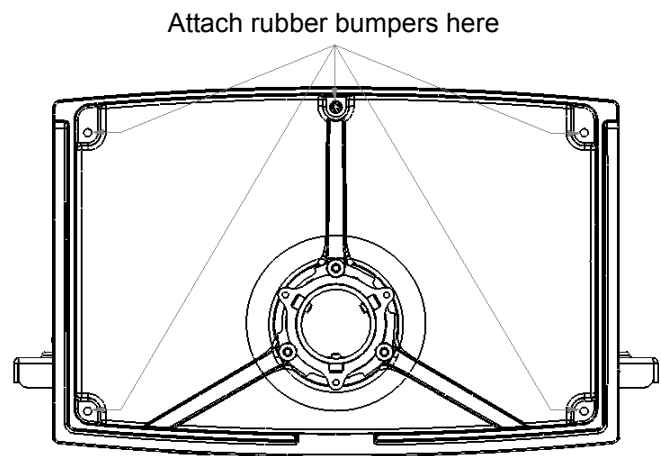

Figure 6. Free Standing Installations Only
1. Install five rubber bumpers on the bottom of the stand (see Figure 6).